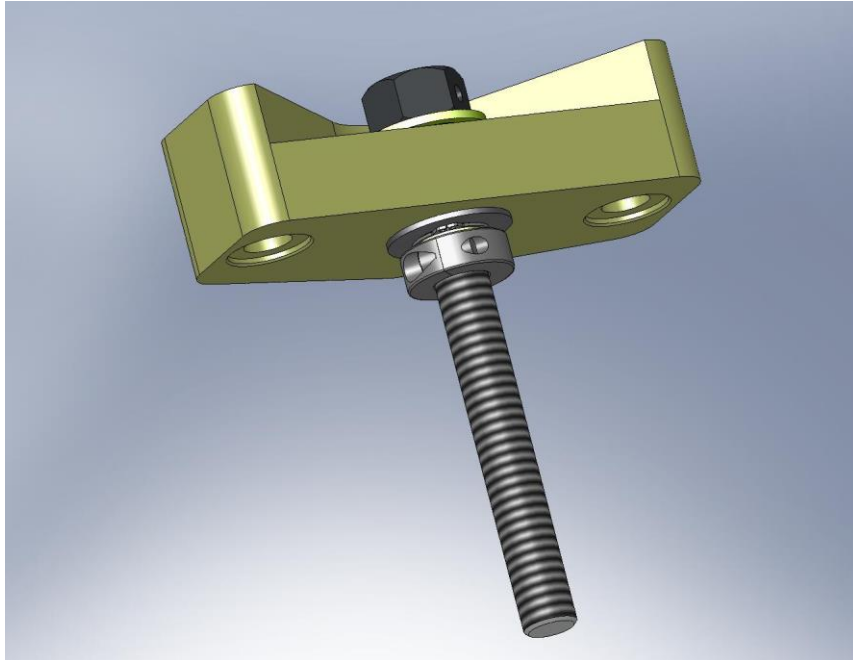

Figure 4.61. ACME Screw placed through the Conversion Bushing. The shaft collar locks the Screw to the Pull-Down Bar.
- Drop **ACME Screw** through top of **Conversion Bushing**, as shown in Figure 4.61. Slide **D0900207** shaft collar with *silver-plated* screws over **ACME Screw**, directly below the **Bushing**. Tighten the collar.